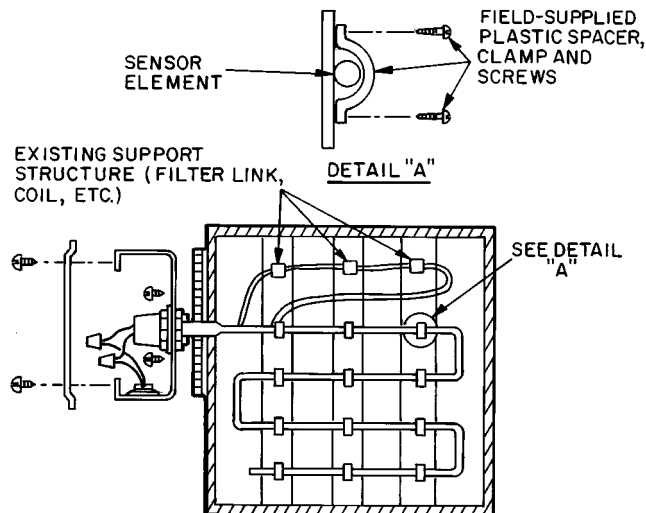

Fig. 21 — Mixed-Air Temperature Sensor (P/N HH79NZ021) Installation
Mount field-installed MAT as follows (Fig. 21):
3. Use a field-supplied plastic spacer, clamp, and screws to secure the sensor in the airstream. See Detail A, Fig. 21.